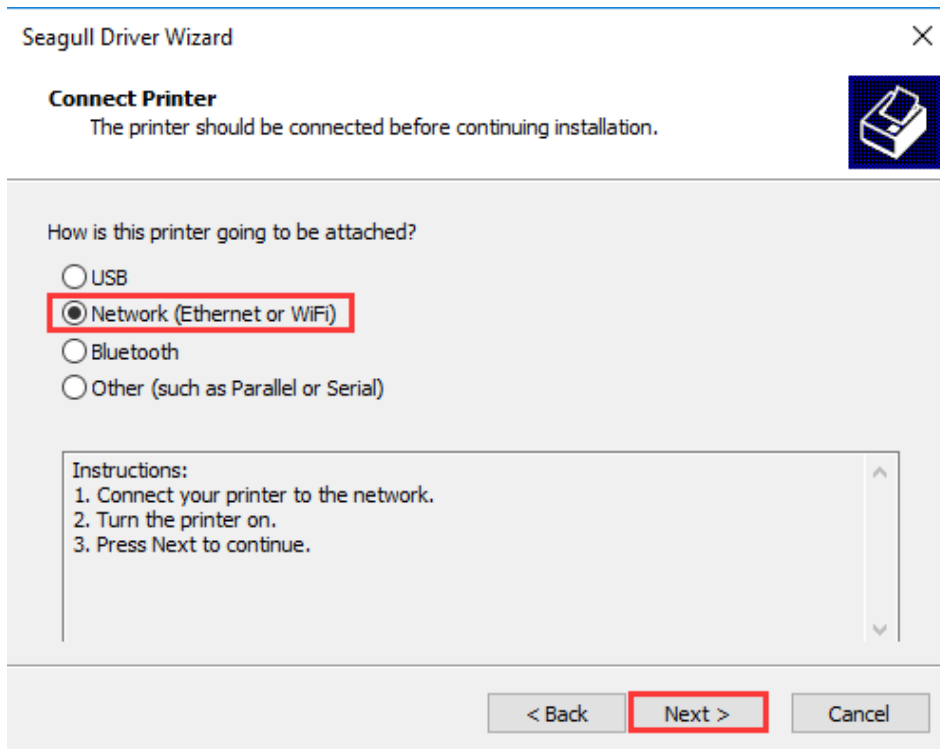

Figure 2-28 Connect Printer Screen
- On the “Connect Printer” screen, select “Network (Ethernet or WiFi)”, and then click “Next”, as shown in Figure 2-28.